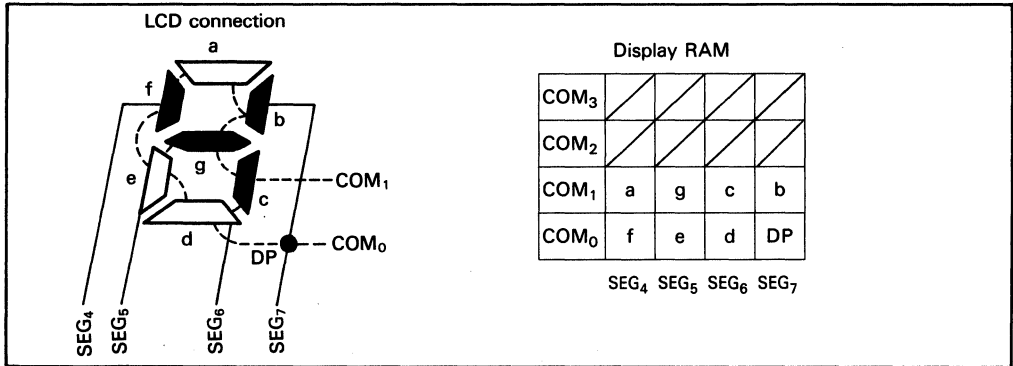

Figure 5 Example of Correspondence between LCD Connection and Display RAM (1/2 Duty Cycle, HD61604)
2. **1/2 Duty Cycle Drive:** In the 1/2 duty cycle drive, the columns of COM₀ and COM₁ of display RAM are output in time sharing. The columns of COM₂ and COM₃ are not displayed (figure 5).